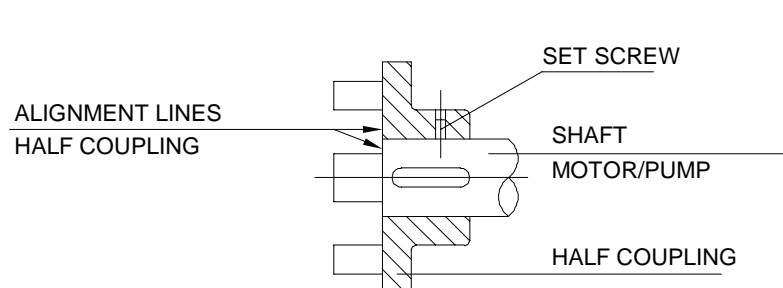

Fig. 4
- 1 - Thoroughly clean motor/pump shaft ends and shaft keys, place the shaft keys in the proper keyway slots and fit the coupling halves in line with the shaft ends. The use of a rubber hammer and even pre-heating of the metal half couplings may be required (see fig. 4). Lightly tighten the set screws. Verify that both pump and motor shafts rotate freely.